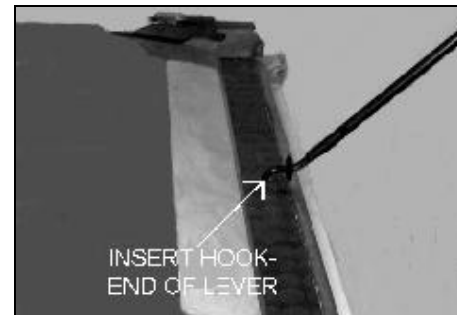

FIGURE 2-6: HOOK-END OF LEVER
- 5) Refer to **Figure 2-6**. Insert hook end of manual operation lever into manual operation hole.